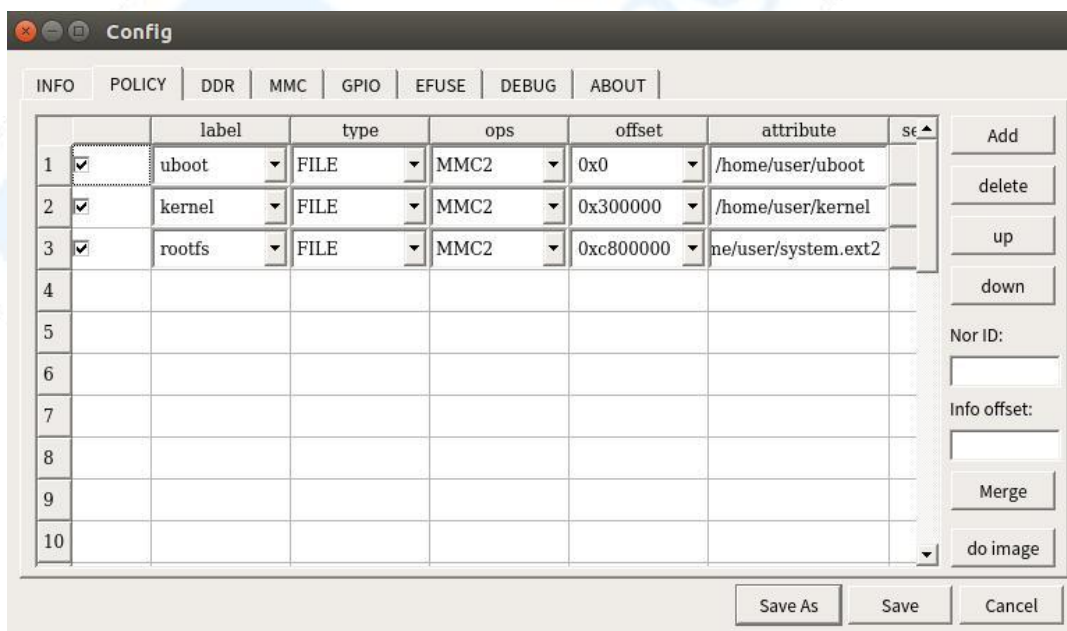

Figure 4-9
2. Configure the image file path and click POLICY to configure accordingly. Set the corresponding paths of the uboot, kernel and rootfs image files in sequence (the file names are uboot, kernel, system.ext2 respectively), and click the corresponding setting to select the file. The configuration can refer to Figure 4-9. It should be noted that the file system formats used by different storage media are different, and all of them need to be re-configured and re-compiled before re-compiling.